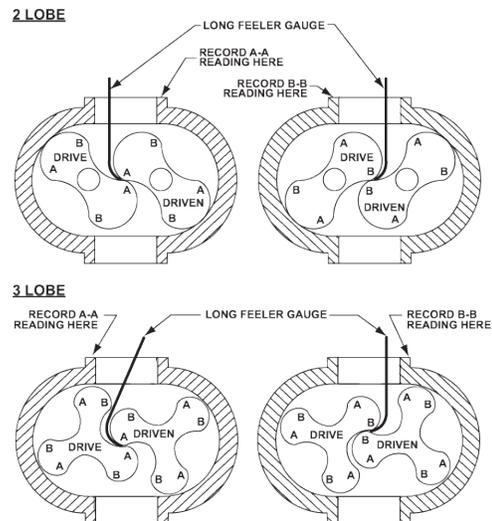

Figure 8-4 – Checking Rotor Interlobe Clearance
17. Use the bar pullers (**see Figure 8-4**) and attach to free end plate bores. Using the bar pullers, pull the free end plate from rotor shafts.
16. Check clearance between the face of the end plate and the rotor lobes. **See Figure 8-4** for correct gear and clearances. If clearances are not within specifications, recheck the parts to find and correct the cause of improper clearances before proceeding.
25. Check clearances between the end of the lobes and the housing using a flat bar and feeler gauges or a depth micrometer. **See Figure 8-4** for free end clearances.
32. Lay the blower down with the drive gear on the left. Using feeler gauges, take interlobe readings and record on each side of housing as indicated in **Figure 8-4**. By removing or adding shim behind the helical gear, it rotates as it is moved in or out and the driven rotor turns with it, thus changing the clearance between rotor lobes. Changing the shim thickness 0.006 in. (0.16 mm) will change the rotor lobe clearance one-half the amount: 0.003 in. (0.08 mm).
**EXAMPLE:** **See Figure 8-4**, check the clearance at AA (left-hand reading) and BB (right-hand reading). If AA reading is 0.003 in. (0.08 mm) and BB reading is 0.009 in. (0.24 mm), by removing 0.006 in. (0.16 mm) of shim, the readings will change one-half the amount removed or 0.003 in. (0.08 mm). AA should then read 0.006 in. (0.16 mm) and BB should read 0.006 in. (0.16 mm). The final readings should be within 0.002 in. (0.05 mm) of each other.